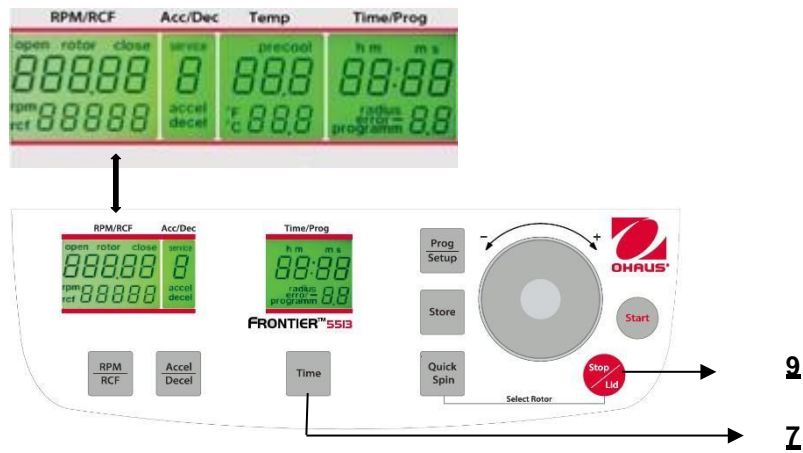

Figure. 27
While the centrifuge is turned off, press simultaneously the keys **"Time"**(7) and **"Stop/Lid"** (9) and turn on the mains switch of the centrifuge. Now release both keys and as a result a display test is executed for approx. 5 seconds. All indicators will appear at the same time (see figure 27).